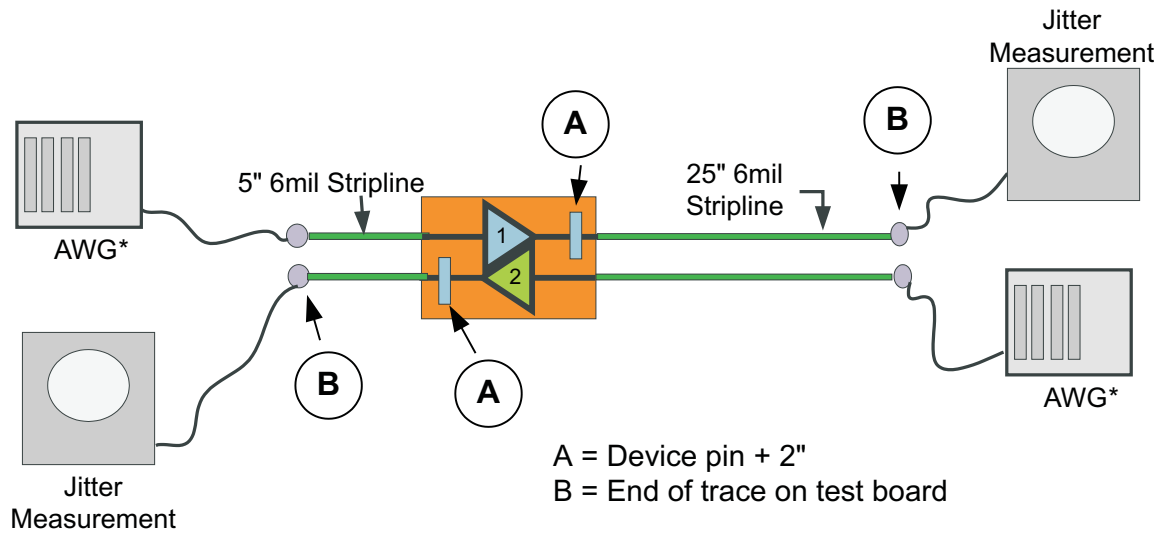

Figure 9. Jitter Measurement Setup
| T _{TX-TJ} ⁽¹⁾ | Total Jitter | At point A in Figure 9 ⁽²⁾ | | 30 | | | 50 | ps pp |
| | | At point B in Figure 9 ⁽²⁾ | | 25 | | | 80 | |
| T _{TX-DJ} | Deterministic Jitter | At point A in Figure 9 ⁽²⁾ | | 16 | | | 30 | ps pp |
| | | At point B in Figure 9 ⁽²⁾ | | 11 | | | 60 | |
(1) Includes RJ at 10^{-12} (2) Refer to Figure 9 with $\pm K28.5$ pattern at 5Gbps, –3.5dB DE from source AWG .